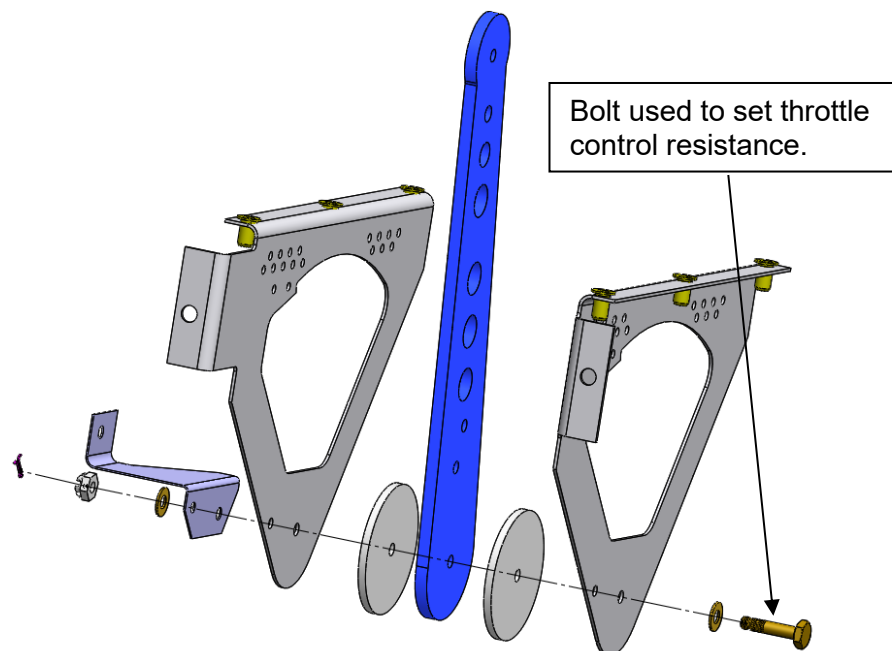

Figure 34
- Step 6: Pull the throttle to idle and confirm that the throttle control is smooth, has a suitable feel and that the lever does not creep forward under the tension of the spring on the engine side. If the control creeps forward tighten the bolt referred to in Figure 34. Once the friction is suitable to avoid the control from creeping forward, insert the split pin as seen in Figure 34.